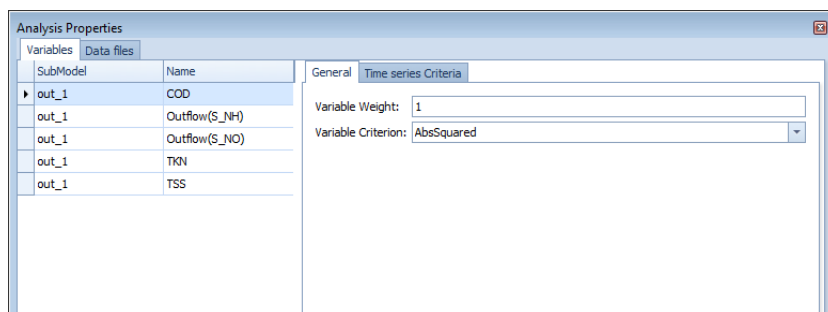

Figure 4.2 The General tab page of the Analysis Properties dialogue (Dynamic Simulation experiment)
- **Left pane** (Figure 4.2):
- **General** (Figure 4.2):